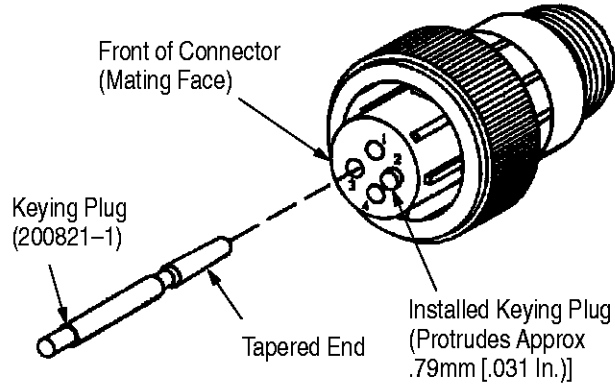

Figure 10
**11.1. Keying Series 1 Connectors** (Figure 10)